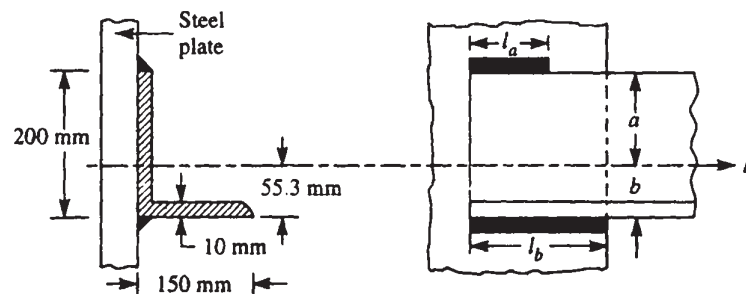

Fig. No. 2
- (ii) A $200 \times 150 \times 10$ mm angle is to be welded to a steel plate by fillet welds as shown in Figure No. 2. If the angle is subjected to a static load of 200 kN. Find the length of weld at the top and bottom. The allowable shear stress for static loading may be taken as 75 MPa.